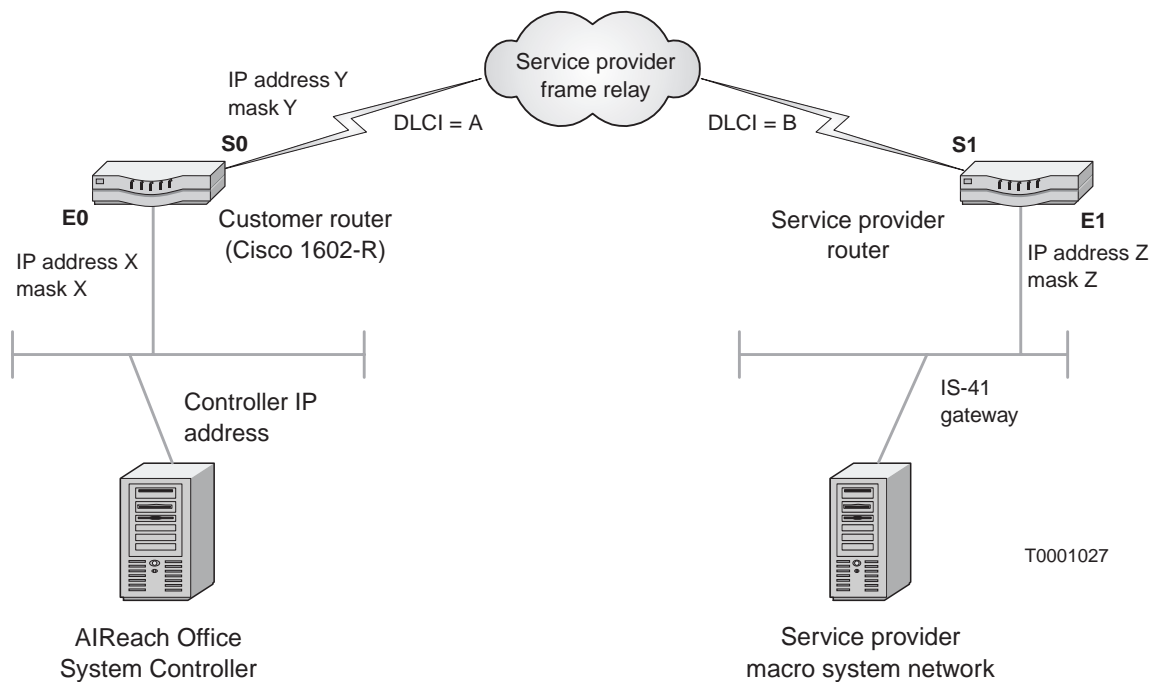

Figure 5-1 AIReach OS IS-41 gateway network diagram
1. Refer to the network diagram in Figure 5-1 and verify the IS-41 gateway configuration and IP addresses.